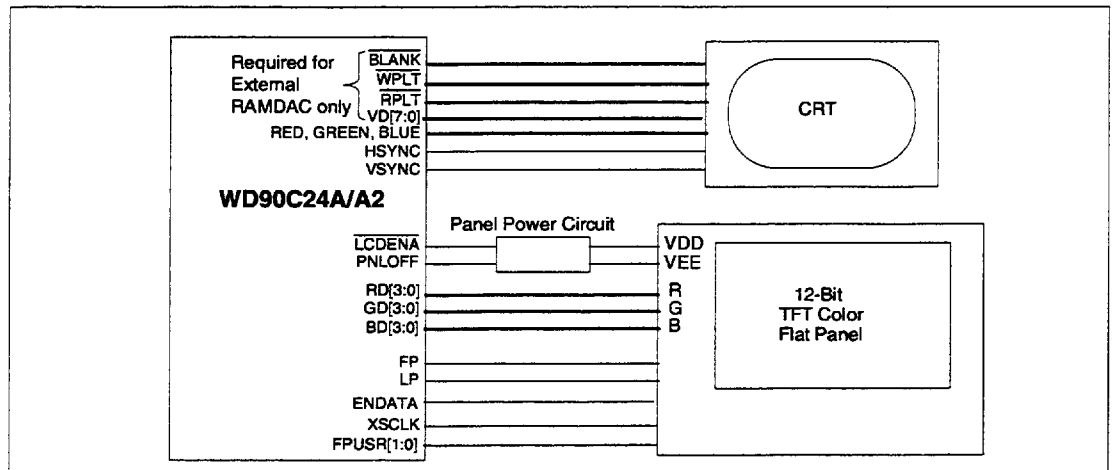

FIGURE 26-4. SIMULTANEOUS CRT AND 12-BIT COLOR TFT LCD PANEL INTERFACE
- Simultaneous CRT and 12-Bit Color TFT LCD Panel Interface (Figure 26-4)